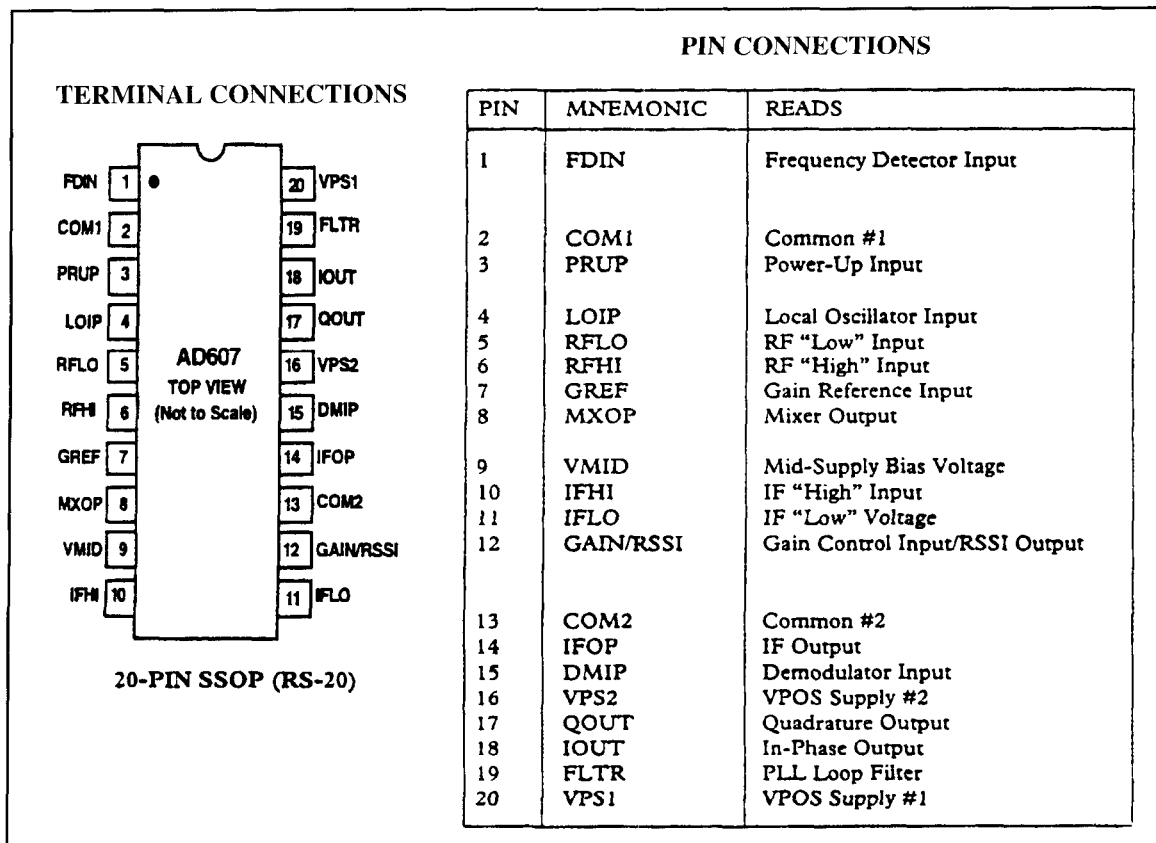
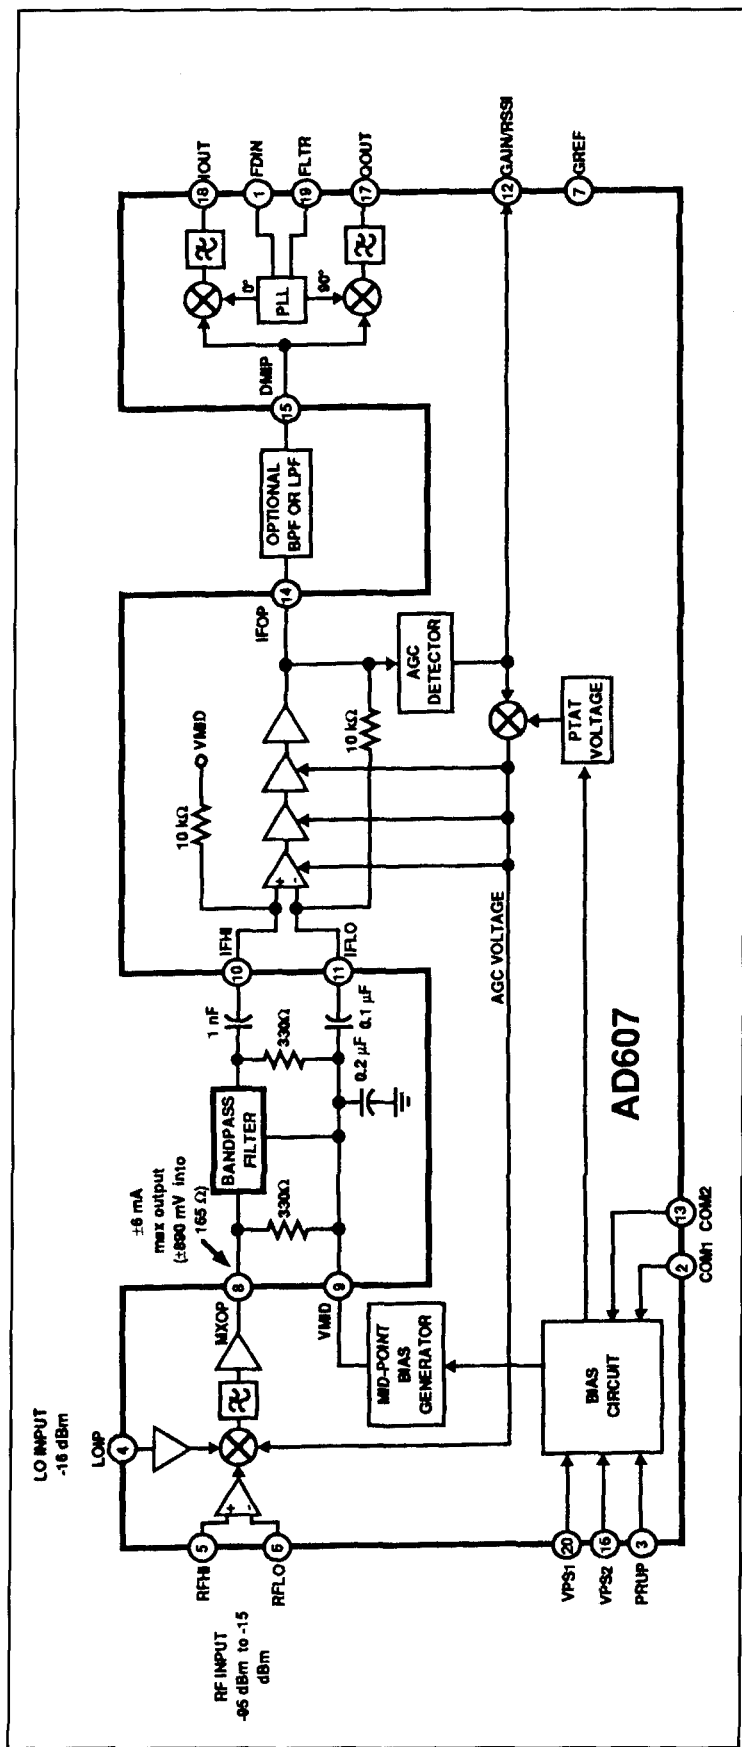

Figure 1. AD607 pinout and specs.
Figure 2. AD607 functional block diagram.
The heart of the VFO (**Figure 2**) is a Vacker oscillator converting from 60.8 to 90 MHz. This class A oscillator is relatively stable and has minimal phase noise. It is buffered by Q6 and Q7. The VFO provides the drive to the LO port of the last mixer stage, MX-2. A 7812 voltage regulator IC, powered continuously by a wall-type plug-in power supply, powers the VFO. This ensures long-term stability and minimal drift. The VFO assembly should be mounted away from heat sources like the PA assembly.
The exciter assembly (see **Figure 2**) comprises the audio, RF generator, and logic board. This all fits in a chassis 10 by 12 by 3 inches (part no. LMB C10123).
quency-control and AF power amplifier. However, this is not your typical FM-only chip! The AD607 works up into the UHF region, comes with internal I and Q demodulators and an associated carrier-recovery PLL for multi-mode detection, and features a very wide-range internal AGC system. Indeed, the AD607 is virtually in a class by itself (some AM-stereo chips have I/Q demodulation, but not the versatility and high-frequency performance of the AD607). Please refer to **Figure 1** for a run-down of the AD607's specifications and **Figure 2** for a functional block diagram.
**Figure 1** shows the essentials of the N6NWP, 14-MHz mixer (with 9-MHz IF) based on a Siliconix Si8901/SD8901 DMOS FET quad device together with a 74HC74 dual flip-flop to provide square wave LO injection from a VFO operating at about 10.5 MHz. The mixer is followed by a simple diplexer network; N6NWP also provides details of suitable high-performance pre and post-mixer amplifiers. The mixer can be used either with or without the input preamplifier which, like the post-mixer amplifier, uses two MRF586 transistors in push-pull.
“It was decided to construct a mixer (**Figure 2**) based on the ideas of N6NWP, but utilizing the more widely available Siliconix SD5000
Figure 2. G3SBI's modified N6NWP-type mixer test assembly using the SD5000 FET array and 74AC74N to provide square-wave injection from a high-quality signal generator source with output at twice the required frequency.